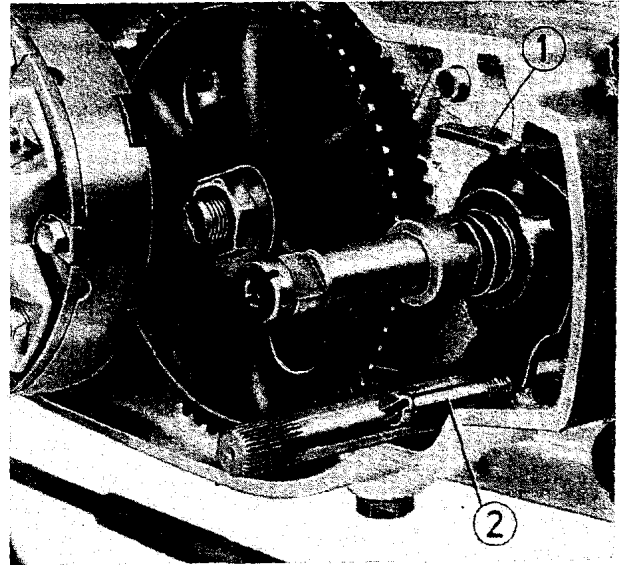

Fig. 84. Correct position of the cam plate
As shown in Fig. 84, the cam plate of the positive tracking is put with its nose (1) into the casing.
For the sake of clearness, the clutch cover is not shown in Fig. 84; this illustration does not show the mounted state.